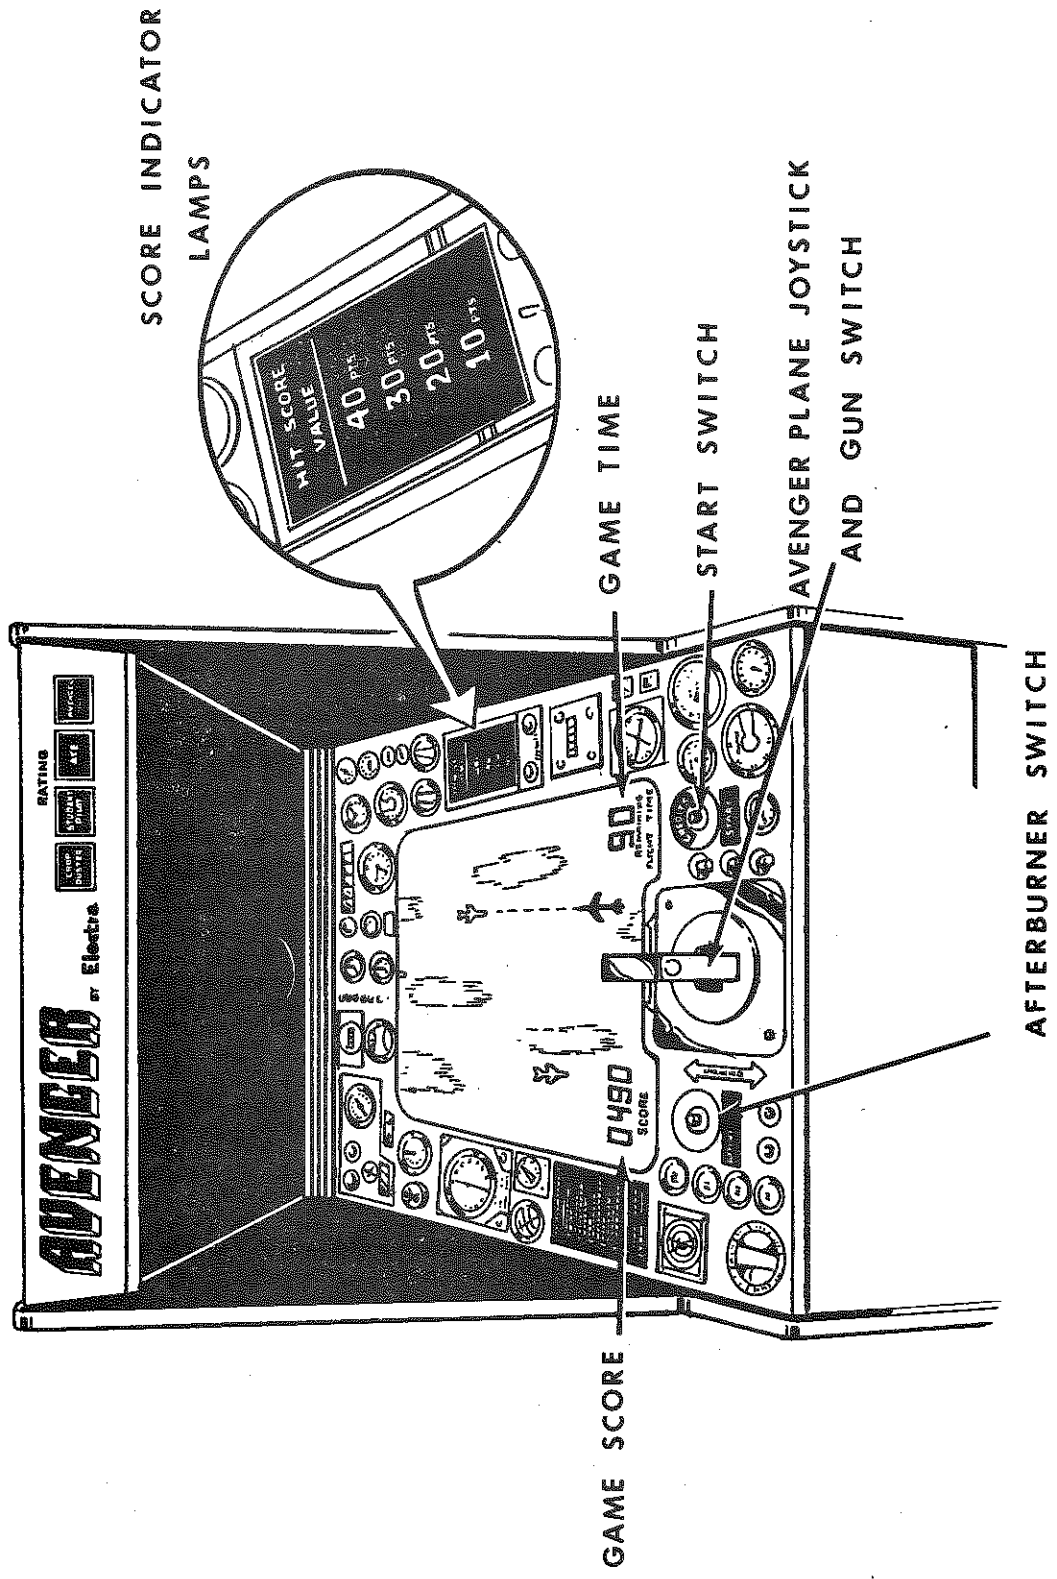
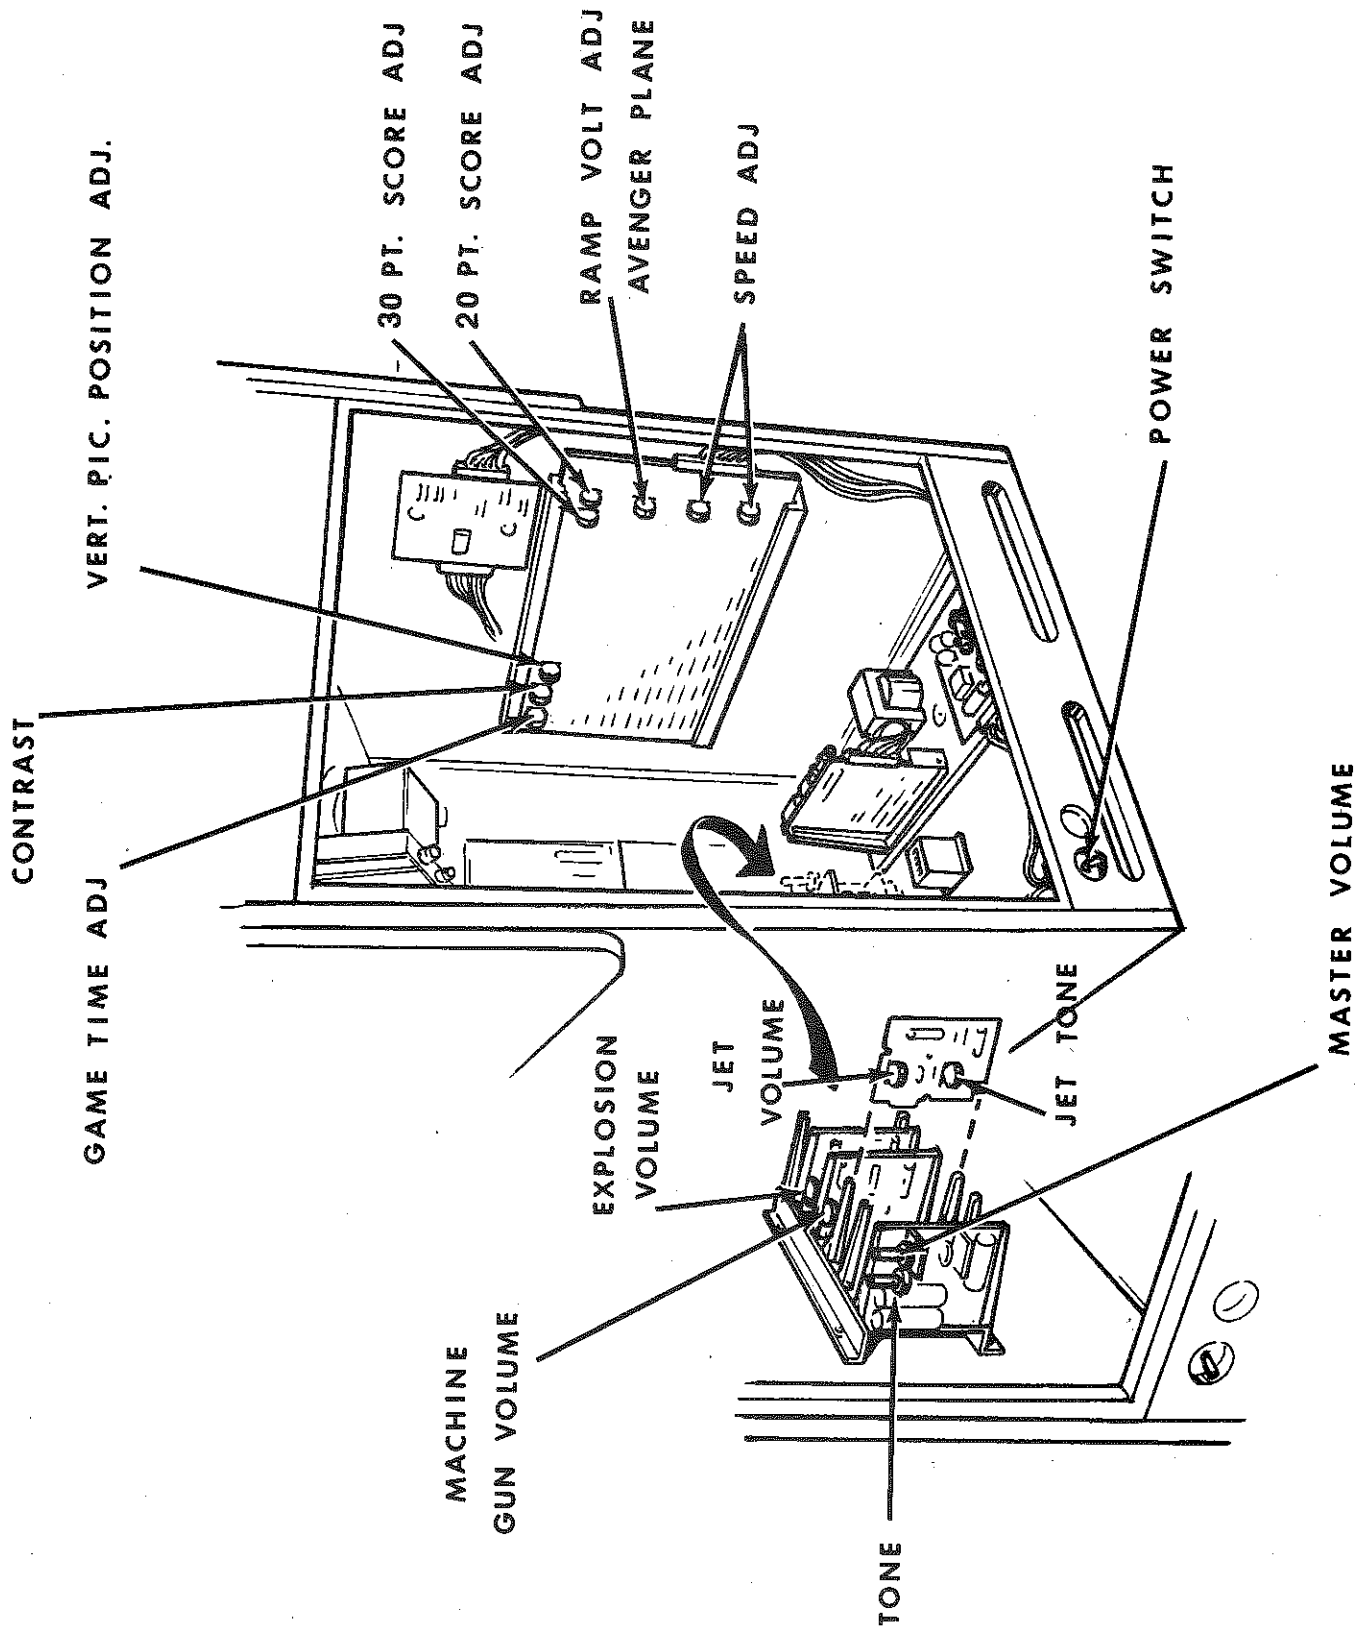

FIG. 4
FIG. 5
- . Inspect the Video Monitor for obvious damage; then inspect the Power Supply unit in the Base. (Refer to Figure 4.) The PS-3 Power Supply Board should be connected and securely in position.
- . Inspect all Printed Circuit Boards to ensure that they are properly mounted and that edge connectors are fully seated. (Refer to Figure 5.)
- . Plug into a 120 volt 60 hertz receptacle and turn on Power Switch located at the lower back of the Cabinet. (Refer to Figure 5.) After approximately a 15 second warm-up period, the Display shown in Figure 4 will appear on the Cathode Ray Tube.
- 1.0 Power On - The Game is powered up by setting the POWER toggle switch ON (located on the rear of the Cabinet, lower left hand corner). After the initial warm-up period, the Game display will appear on the screen (Refer to Figure 4). Clouds and white enemy planes will be moving across the face of the screen. Game is in STANDBY CONDITION.
- 4.0 Scoring - Score is accumulated by the total number of "Hits" (enemy planes shot down) during the allotted game time. The value of each "Hit" is determined by the speed of the enemy planes. Speed is increased by pushing the joystick forward. Initially, each hit scores 10 points. As speed is increased, hit point values increase to 20 and finally 30 points as indicated by the hit score value lamps (Refer to Figure 4). When the AFTERBURNER switch is pressed and held, a maximum of 40 points per hit is possible and the fastest flight speed attained. The following total scores determine a player's rating.
Refer to Figure 5 for the location of all printed circuit board adjustments.